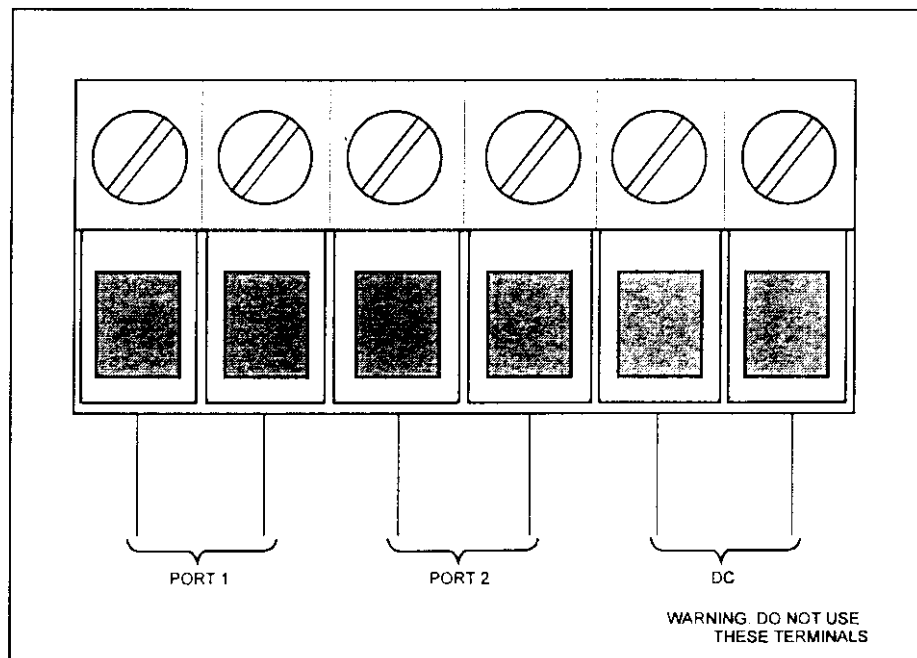

Figure 5-19. PCU Connections Terminals
- d. Connect the 2 x 1 x 0.5 indoor cable to the PCU at one end and to the Distribution Frame at the other end. Connect the DC power supply only (see figure 5-19 for connections terminals).
- b. Connect the 3 x 2 x 0.5 (or 5 x 2 x 0.5) outdoor cable to the PCU at one end and leave the other end free. Connect the DC power supply only (see figure 5-19 for connections terminals).
- b. Connect the 3 x 2 x 0.5 outdoor cable to the PCU at one end and leave the other end free (see figure 5-19 for connections terminals).
- d. Thread the free end of the 3 x 2 x 0.5 cable through the rubber grommet in the FAU case cover, and connect it to the supplied FAU screw terminal connector (see figure 5-19 for connections terminals).
- b. Connect the 3 x 2 x 0.5 outdoor cable to each of the PCUs at one end and leave the other end free. Connect the DC power supply only (see figure 5-19 for connections terminals).
- c. Loosen the two screws that fasten the FAU's bottom cover and remove the cover. Connect the 3 x 2 x 0.5 outdoor cable from the FAU terminal connector (see figure 5-19 for connections terminals) directly to the telephone sockets.
- d. Thread the free end of the 3 x 2 x 0.5 cables through the rubber grommet in the FAU case cover, and connect them in parallel to the supplied FAU screw terminal connector. Connect the DC power supply only (see figure 5-19 for connections terminals).
- b. Connect the 3 x 2 x 0.5 outdoor cable to each of the PCUs at one end and leave the other end free (see figure 5-19 for connections terminals).
- d. Thread the free end of the 3 x 2 x 0.5 cables through the rubber grommet in the FAU case cover, and connect each of them to the supplied FAU screw terminal connector (see figure 5-19 for connections terminals).